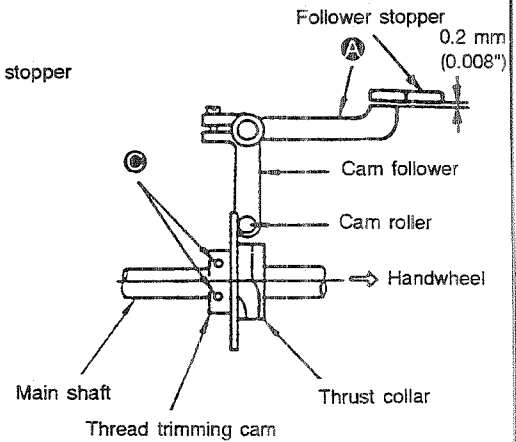

Fig. 5-15-2
- 1) When part **A** of the cam follower is pushed down to maximize the clearance between the follower stopper and the cam follower, the clearance should be 0.2 mm (0.008"). (Fig. 5-15-2)